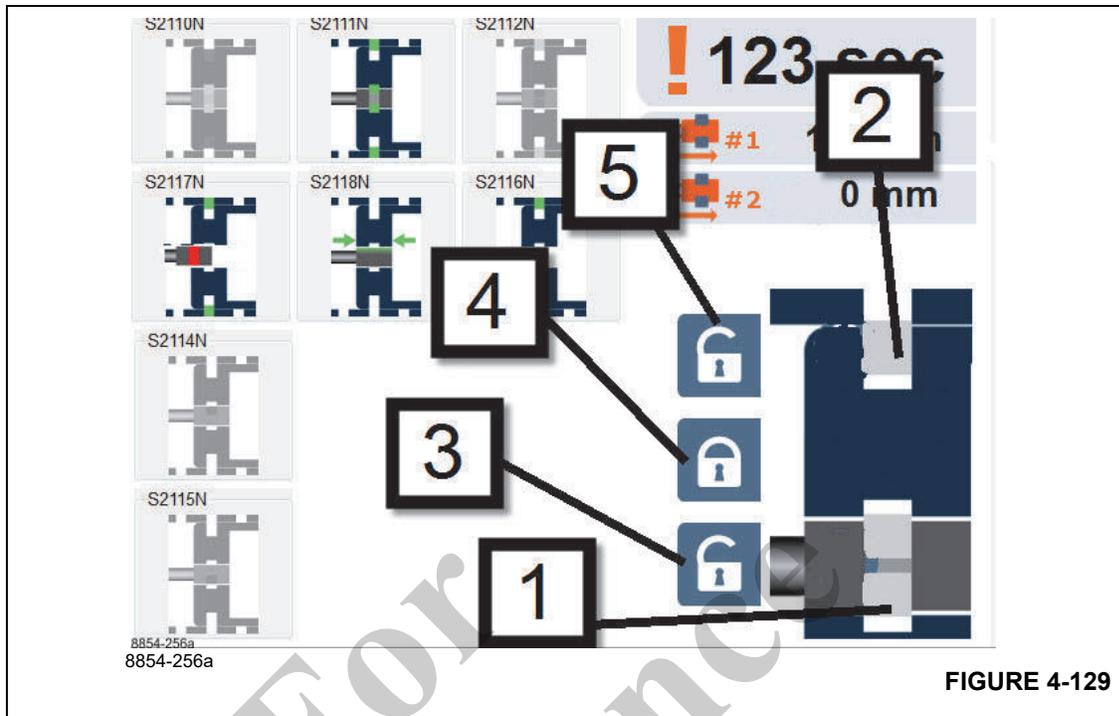

FIGURE 4-129
Figure 4-129 has further explanation for the telescoping emergency program screen. Item 1 is the graphical representation of the tele cylinder pins that connect to a telescoping boom section. When these cylinder pins are considered retracted, an unlock symbol will appear in this location.
representation of the tele cylinder - refer to Item 1 in Figure 4-129.
The telescoping boom section is unlocked (the unlock symbol is shown near the graphical representation of the section pins - refer to Item 2 in Figure 4-129).
During telescoping motion you are not to select Lock. Under no circumstances, while the tele cylinder is moving, should you select and press the symbol (4, Figure 4-129).
- Now select and confirm the symbol (1, Figure 4-129).
- Select and confirm the symbol (3, Figure 4-129).
The telescoping cylinder is unlocked. In the unlocked position, the screen should appear as indicated by Figure 4-133. The telescoping cylinder is unlocked from any telescoping boom section (unlock symbol shown near the graphical representation of the tele cylinder - refer to Item 1 in Figure 4-129).
The telescoping boom section is locked (the unlock symbol is not shown near the graphical representation of the section pins - refer to Item 2 in Figure 4-129).
- Select and confirm the symbol shown as Item 4 in Figure 4-129.